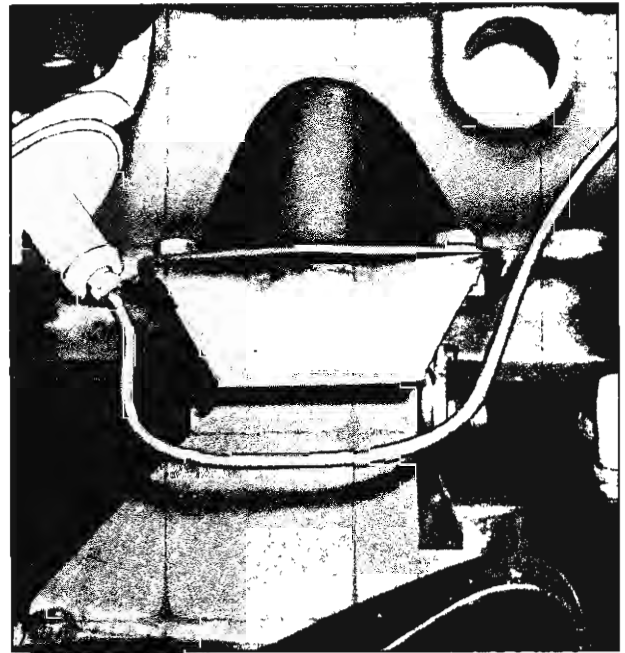

Fig. 50—Engine Front Mount Installation
2. Raise front of engine and remove engine mounts from between cross member mount and engine bracket by removing three retaining bolts (fig. 50).